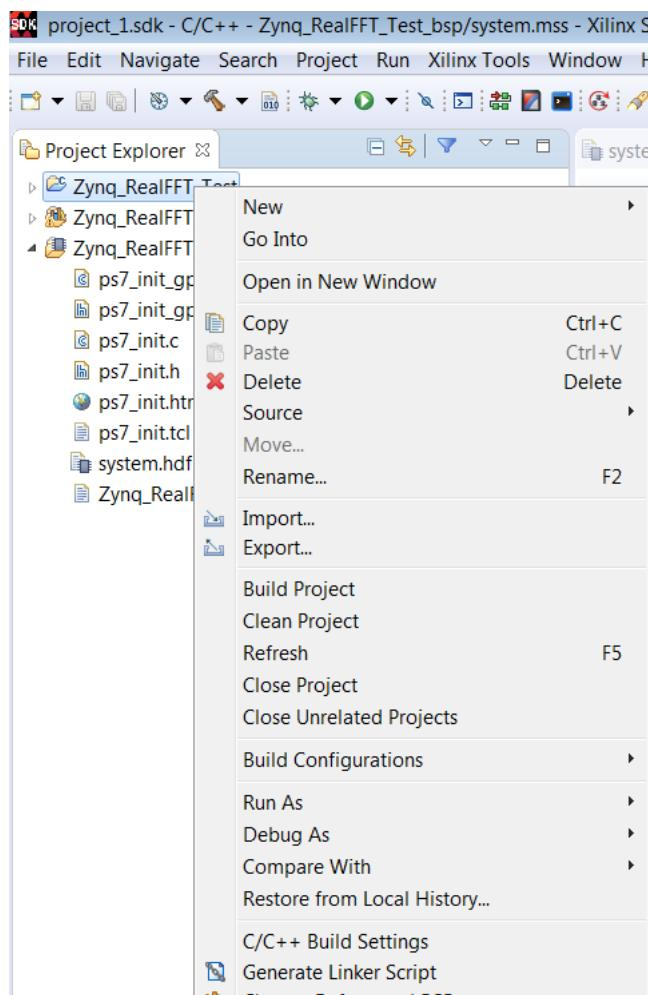

Figure 10-42: Specify C/C++ Build Settings
- a. Right-click the zynq_realf fft _test project in the Project Explorer pane and select **C/C+ Build Settings** (Figure 10-42).